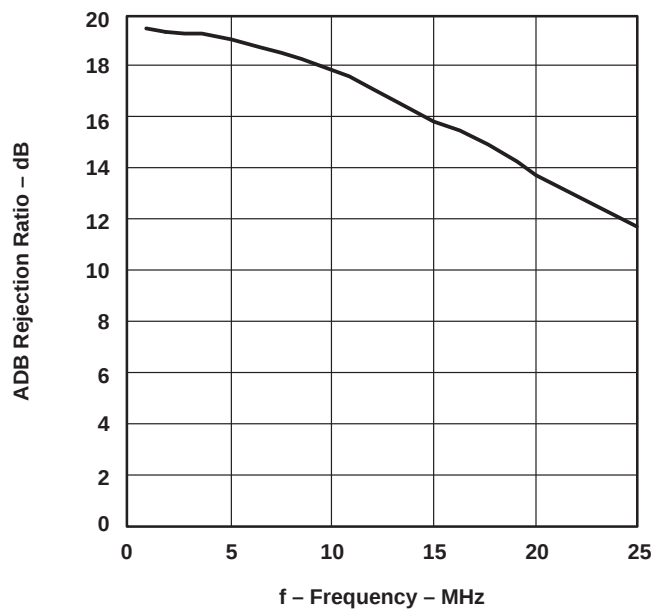

Figure 11. Measured ADB Rejection Ratio as a Function of Frequency
- ADB rejection ratio is -20 times the logarithm of the ac amplitude at the output divided by the ac amplitude at ADB. See Figure 11 for measured ADB rejection ratio as a function of frequency.